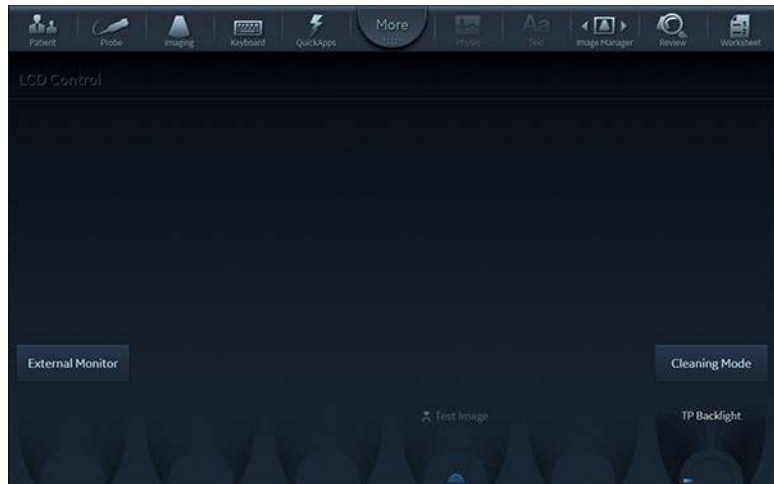

Figure 3-33. LCD adjustment utility
2. Tap the LCD setup tab. The Touch Panel will display several screen adjustments controls (Figure 3-33).